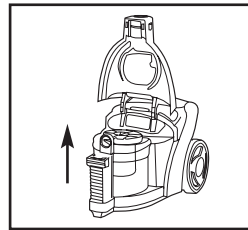

Fig.4
3. Depress top cover release buttons [15]. Lift the top cover. Hold the handle of dust container [21] (without pressing the dust container release button [20]) and lift it out (Fig.4).